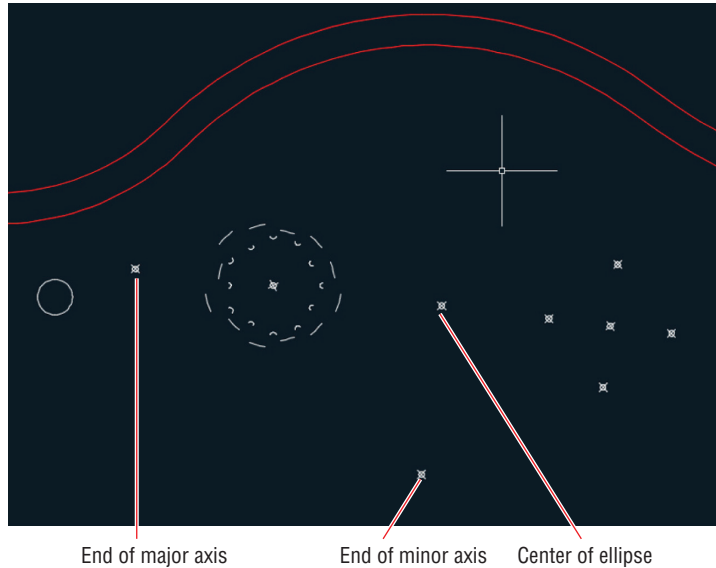

FIGURE 5.10 Drawing an ellipse
3. Open the Ellipse menu in the Draw panel and choose the Center method. Click the center point, the end of the major axis, and the end of the minor axis, shown in Figure 5.10.
5. Right-click the Object Snap toggle in the status bar, and select Quadrant from the context menu. Click the *quadrant point* opposite the point object marking the end of the major axis (see Figure 5.10) and then click the aforementioned point object itself to break the ellipse in half. The lower half of the ellipse remains, leaving an *elliptical arc*.